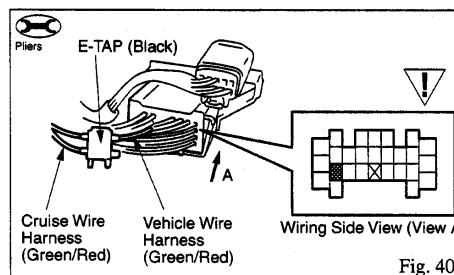

Fig. 40
- (17) Connect the (E) (vehicle speed) E-tap to the vehicle wire harness. (Fig. 40)